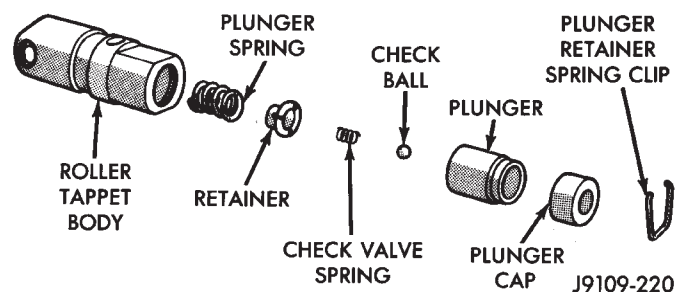

Fig. 50 Hydraulic Tappet Assembly
(1) Pry out plunger retainer spring clip (Fig. 50).
(2) Clean varnish deposits from inside of tappet body above plunger cap.
(3) Invert tappet body and remove plunger cap, plunger, check valve, check valve spring, check valve retainer, and plunger spring (Fig. 50). Check valve could be flat or ball.
(1) Clean all tappet parts in a solvent that will remove all varnish and carbon.
(2) Replace tappets that are unfit for further service with new assemblies.
(3) If plunger shows signs of scoring or wear, install a new tappet assembly. If valve is pitted, or valve seat on end of plunger is prevented from seating, install a new tappet assembly.
(4) Assemble tappets (Fig. 50).